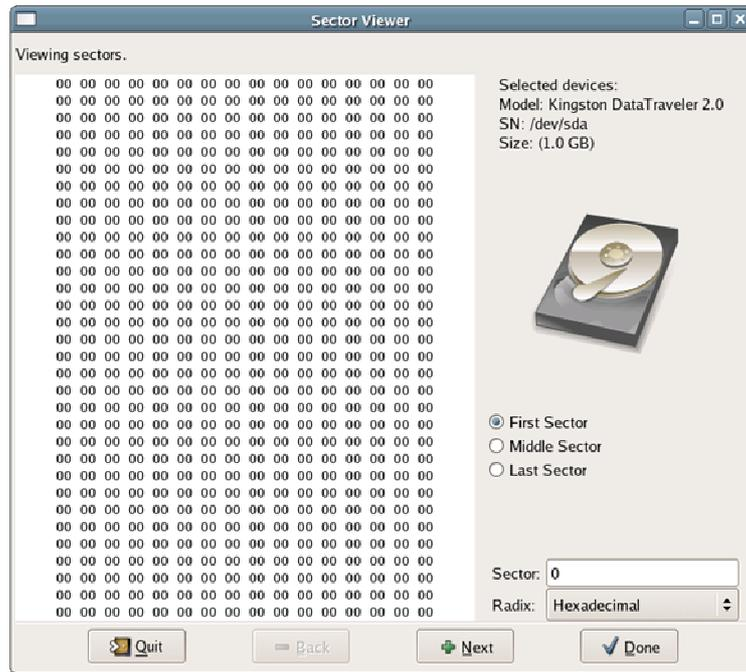

Figure 5.1 – Sector Viewer Screen
5.2 After highlighting a drive, right click on the selected drive and a “Sector Viewer” dialog box will be displayed. Click on this dialog box and the Sector Viewer windows will appear. The sector viewer is shown in Figure 5.1 below.